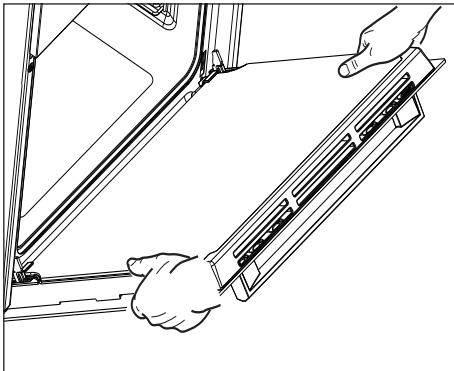

Figure 30
- Open the door to the full extent (fig. 30).